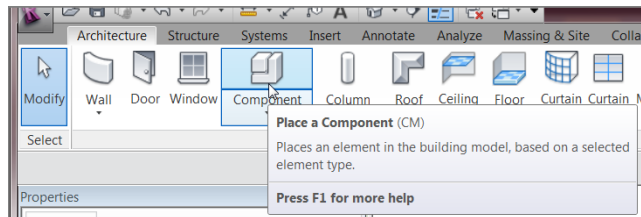

FIGURE 9.34: Click the Component button on the Architecture tab.
2. On the Architecture tab, click the Component button, as shown in Figure 9.34.